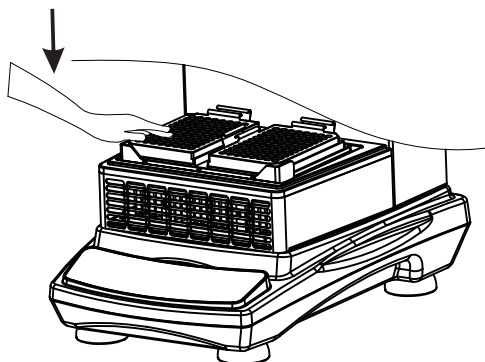

Figure 1
1. Place the Microplate diagonally on the platform, place the microplate under the 96-well Microplate Clamp and slide the microplate into place. You are ready to use it (shown in figure 1).